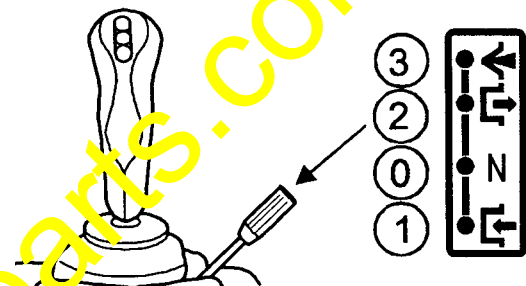
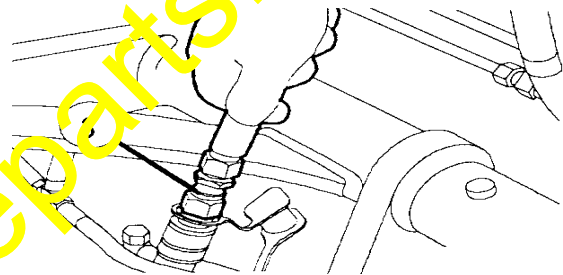

FIG. 3
FIG. 7
Start the engine. Unlock the quick change unit by setting the control lever for special equipment into position '1' (FIG. 3)
Lock the quick change unit by setting the control lever for special equipment into position '2' (FIG. 3)
IMPORTANT: Unlock the quick change unit again by setting the control lever for special equipment into position '1' (FIG. 3) in order to remove the pressure from the additional control circuit.
Connect the hydraulic hoses of the multi-purpose bucket to the quick attach couplers (1) FIG. 3) and (3 FIG. 7)